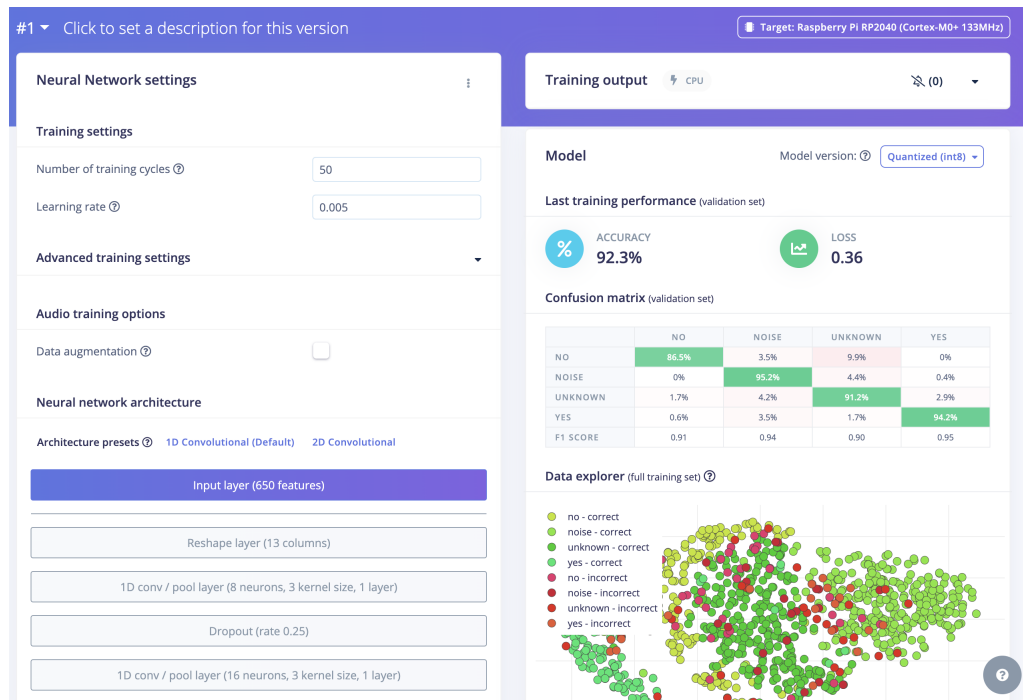

Figure 9.4: The fully trained model should result in something like this. Note the Target.
24. After training, the page should look like Figure 9.4